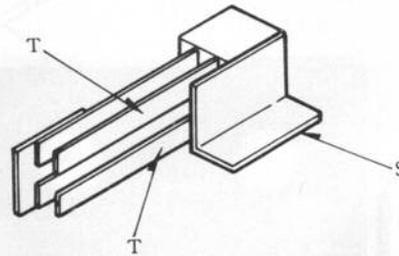

Fig. 6
Please take care not to contact the section (T) and the section (S). (See Fig. 6.)